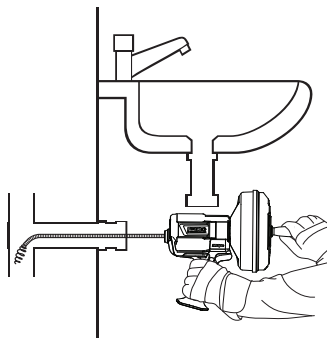

Figure 3
- Unscrew cleanout plug or remove trap (*Figure 3*).